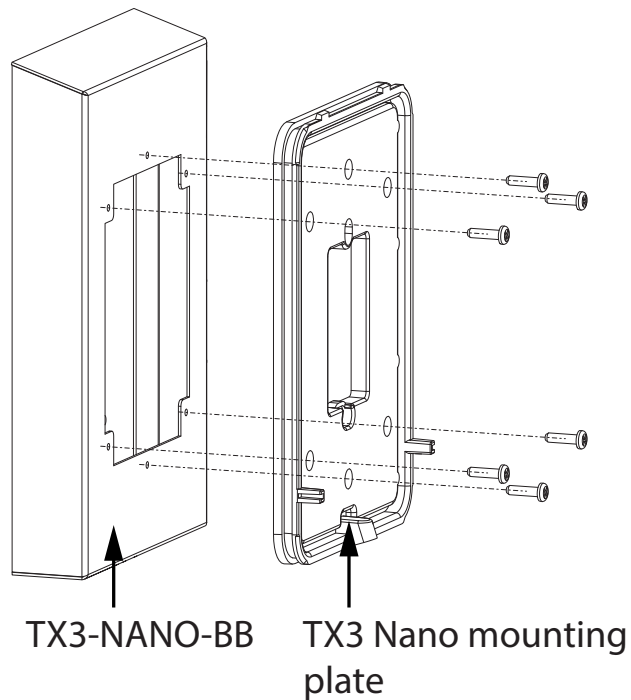

Figure 3. Mount the mounting plate to TX3-NANO-BB
4. Attach the TX3 Nano mounting plate over the TX3-NANO-BB with the included 6 screws as shown in Figure 3.